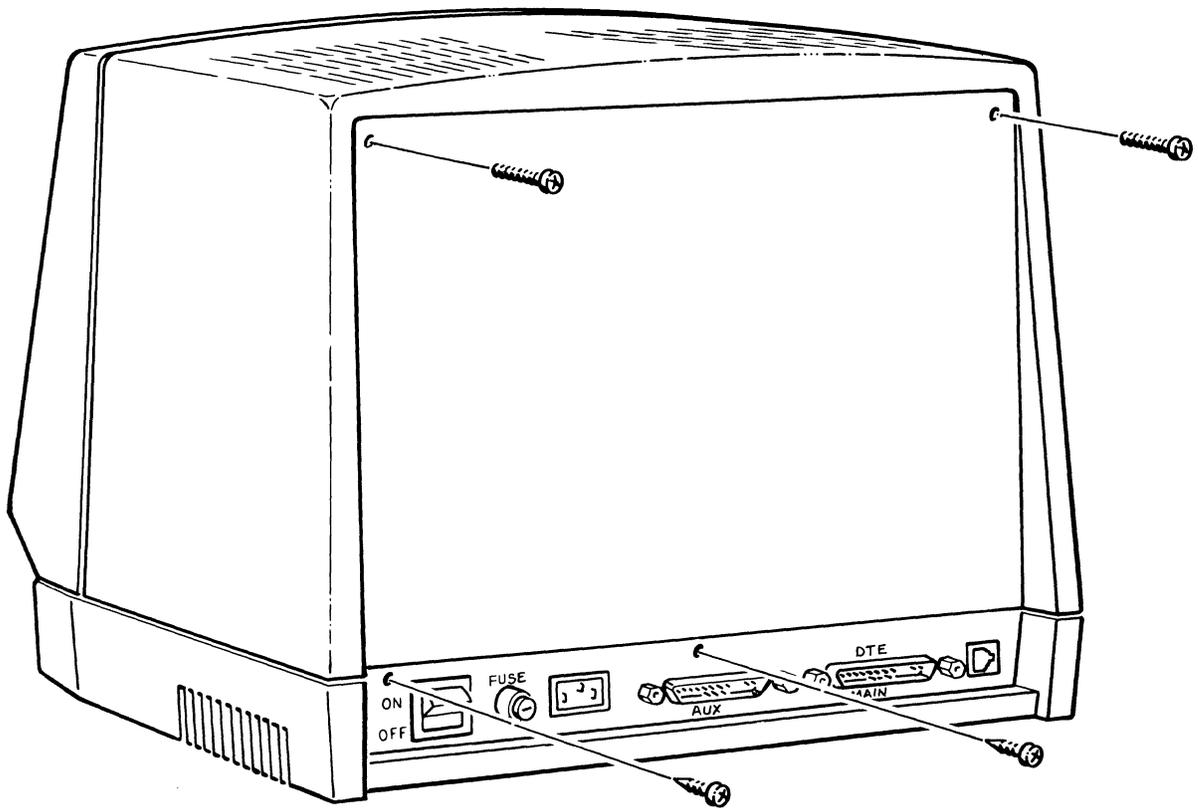

Figure 7.2. Cabinet Reassembly
15. Connect the black ground wire to the CRT ground clip (85).
16. Secure the terminal logic board (110) to the left side panel (100) using six 6-32 \times .375" screws (40).
17. Connect plugs P101 (125), P102 (150), and P105 (175).
18. Secure the left side panel (100) to the chassis (170) using two 6-32 \times .375" screws (40).
19. Secure the lower left RFI guard (25) to the front cabinet (5) using two 8-BT \times .625" screws (15).
20. Secure the lower left RFI guard (25) to the left side cover using two #6 washers (45) and two 6-32 \times 250" nuts (50).
21. Install top RFI shield (255) using two screws (103) and two screws (105).
22. Install a cable tie (280) to the video circuit board ferrite bead and route it (at the position previously noted) through the top of the RFI shield (255). Secure it in position using another cable tie. Cut off the excess ends of the cable ties.
23. Refer to Figure 7.2 and replace the cabinet top cover and rear panel using two 6-32 \times .875" screws in the top and two 4-40 \times .375" screws in the bottom of the rear panel.
11. Connect the black ground wire to the CRT ground clip (85).
12. Secure the terminal logic board (110) to the left side panel (100) using six 6-32 \times .375" screws (40).
13. Connect plugs P101 (125), P102 (150), and P105 (175).
14. Secure the left side panel (100) to the chassis (170) using two 6-32 \times .375" screws (40).
15. Secure the lower left RFI guard (25) to the front cabinet (5) using two 8-BT \times .625" screws (15).
16. Secure the lower left RFI guard (25) to the left side cover (100) using two #6 washers (45) and two 6-32 \times 250" nuts (50).
17. Install top RFI shield (255) using two screws (103) and two screws (105).
18. Install a cable tie (280) to the video circuit board ferrite bead and route it (at the position previously noted) through the top of the RFI shield (255). Secure it in position using another cable tie. Remove cable tie excesses.
19. Refer to Figure 7.2 and replace the cabinet top cover and rear panel using two 6-32 \times .875" screws in the top and two 4-40 \times .375" screws in the bottom of the rear panel.
1. Secure the video circuit board to the right side panel (115) using four screws (132).
2. Connect the 10-pin plug (125) to the video circuit board.
3. Secure the right side panel (115) to the chassis (170) using two 6-32 × .375" screws (40), and tighten the two 6-32 × .375" screws (40) securing the lower right RFI guard.
4. Connect the yoke (90) cables (red/blue) to VERT YOKE and (yellow/black) to HORIZ YOKE on the video circuit board.
5. Connect the anode lead (Inset #2) to the CRT (60).
6. Carefully plug the CRT socket into the CRT (60).
7. Connect the black ground wire to the CRT ground clip (85).
8. Install top RFI (255) shield using two screws (103) and two screws (105).
9. Install a cable tie (280) to the video circuit board ferrite bead and route it (at the position previously noted) through the top of the RFI shield (255). Secure it in position using another cable tie. Cut off the excess ends of the cable ties.
10. Refer to Figure 7.2 and replace the cabinet top cover and rear panel using two 6-32 × .875" screws in the top and two 4-40 × .375" screws in the bottom of the rear panel.
1. Secure the terminal logic board to the left side panel (100) using six 6-32 × .375" screws (40).
2. Connect plugs P101 (125), P102 (150), and P105 (175).